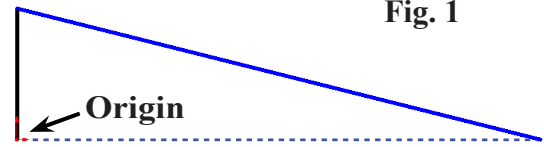

Fig. 2
Step 3. Click **Line**  (L) on the Sketch toolbar.
Step 4. Starting from the Origin  sketch two lines, **Fig. 2**. Use the inferencing line, the dotted line that appears when you sketch the across the bottom of the sketch to keep the end of the lines aligned horizontally.